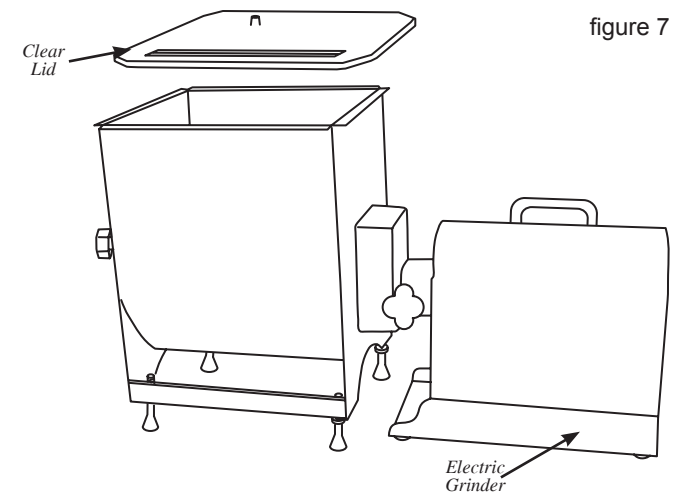

figure 7
16. Install the **Clear Lid** (figure 7). **DO NOT** use the **Meat Mixer** without the **Clear Lid** in place. Severe injury could result!